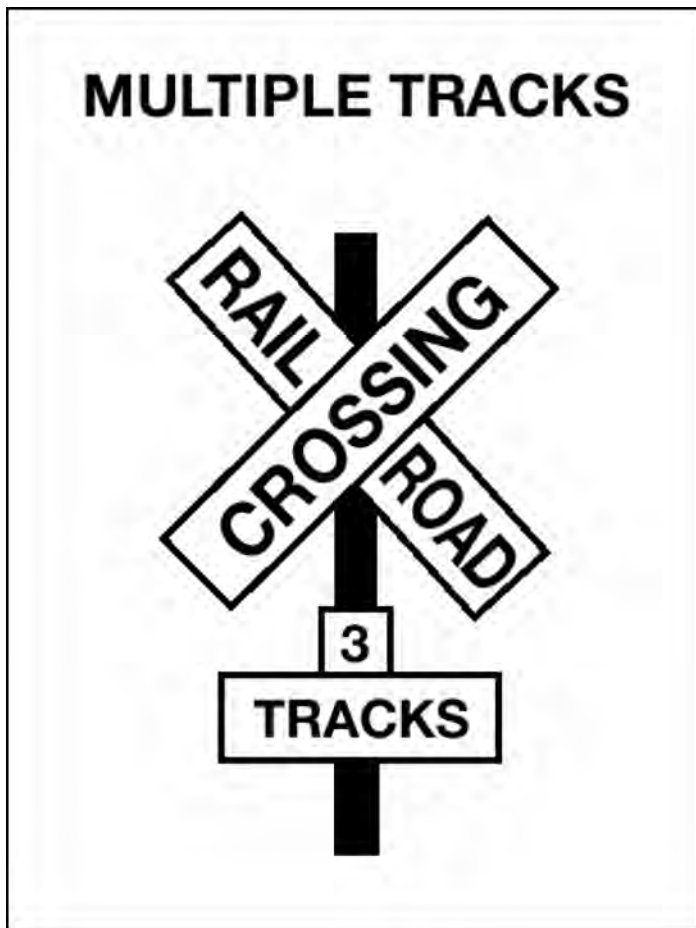

Figure 10-7
**Crossbuck Signs.** This sign marks the crossing. It requires you to yield the right-of-way to the train. If there is no white line painted on the pavement, you must stop the bus before the crossbuck sign. When the road crosses over more than one set of tracks, a sign below the crossbuck indicates the number of tracks. See Figure 10.7.